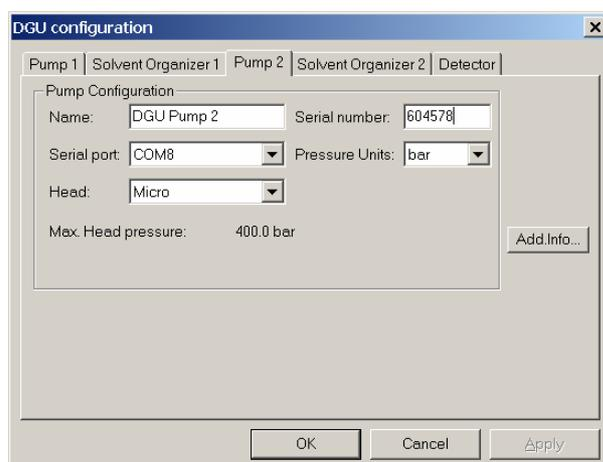

FIGURE 2-19 The UltiMate Pump 2 Configuration Window
- d) Repeat steps a) to c) for Gradient Pump 2 (FIGURE 2-19).